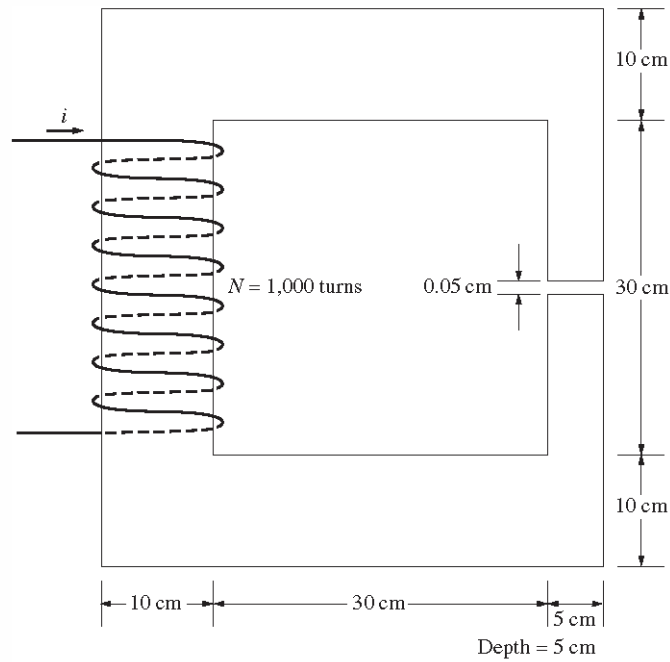
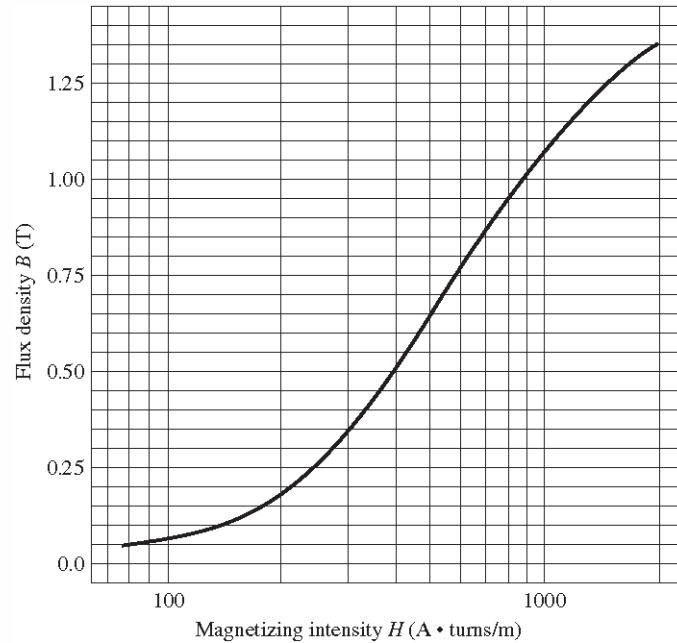

FIGURE P1-11
FIGURE P1-9
- 1-14.** A two-legged magnetic core with an air gap is shown in Figure P1-11. The depth of the core is 5 cm, the length of the air gap in the core is 0.05 cm, and the number of turns on the coil is 1000. The magnetization curve of the core material is shown in Figure P1-9. Assume a 5 percent increase in effective air-gap area to account for fringing. How much current is required to produce an air-gap flux density of 0.5 T? What are the flux densities of the four sides of the core at that current? What is the total flux present in the air gap?
The magnetizing intensity required to produce a flux density of 0.524 T in the right-hand leg of the core can be found from Figure P1-9 to be
The magnetizing intensity required to produce a flux density of 0.262 T in the top, left, and bottom legs of the core can be found from Figure P1-9 to be